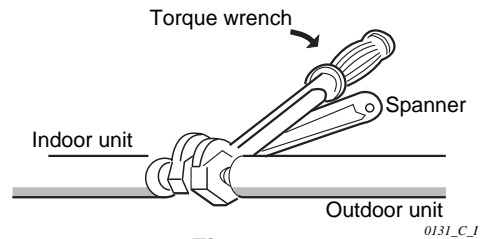

Fig. 10-6
- (1) Tightly connect the indoor side refrigerant tubing with the outdoor side tubing. (Fig. 10-6)
- (2) To fasten the flare nuts, apply specified torque as: